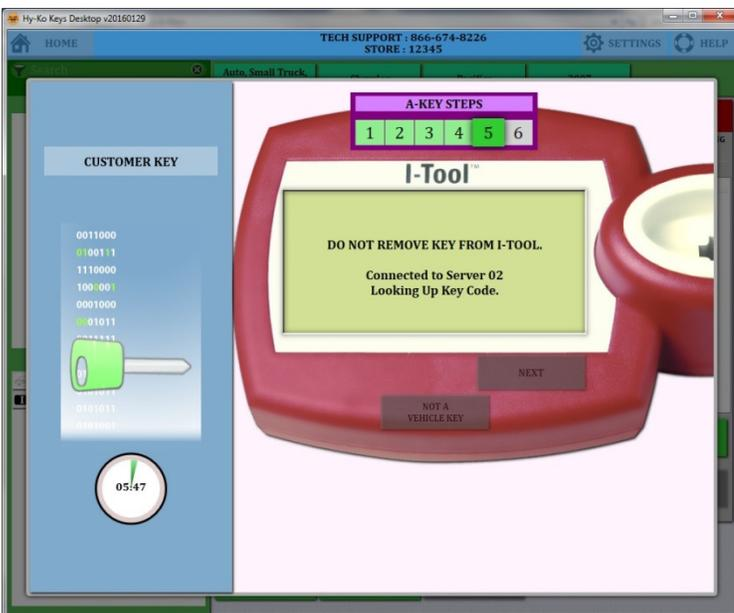

fig. 94
- The I-Tool will connect to a server to finalize the coding process (see fig. 94). Do not touch the key at this time.